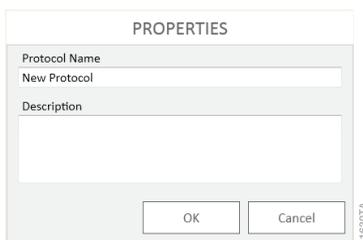

Figure 18. New Protocol name prompt from the GloMax[®] Explorer software.
2. You will be prompted to name the protocol. You also may provide a description, if desired (Figure 18).